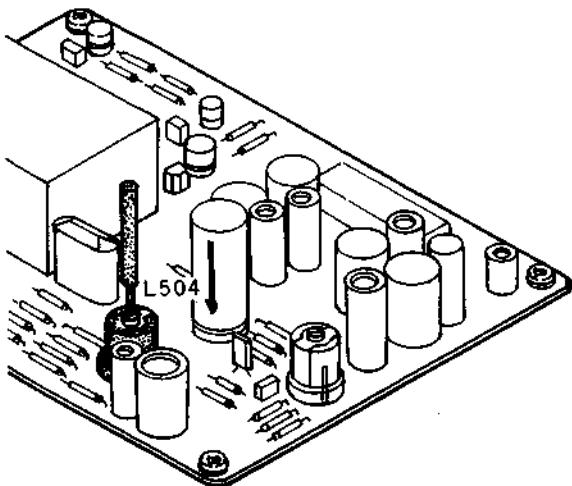

Fig. 4-2-3 Stereo Distortion Adjustment
- (2) Check the distortion in each channel.
- Adjust L504, the switching transformer, in the MPX Decoder section with a non-metallic alignment tool to obtain minimum distortion. See Fig. 4-2-3.